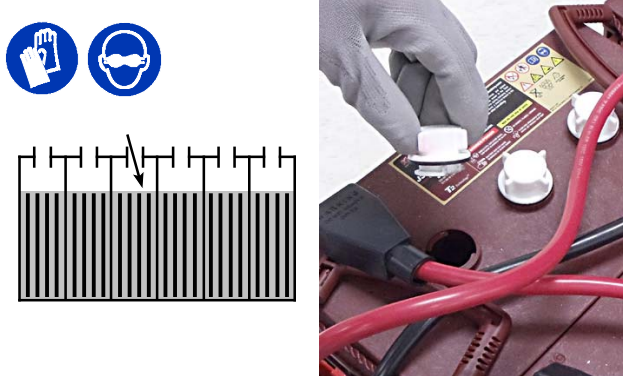

FIG. 64
1. Check the electrolyte level in all batteries (Figure 64). See BATTERIES.